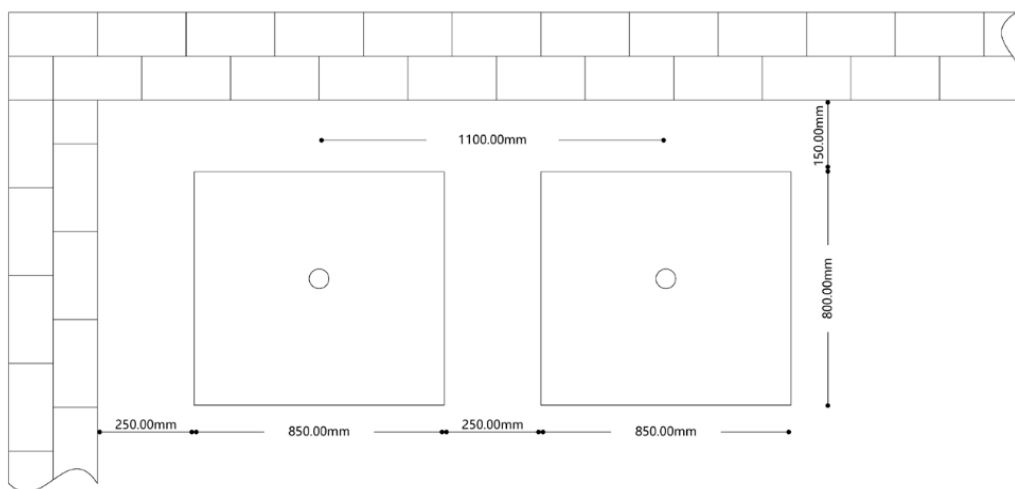

Figure 3 Schematic Diagram of Dimensions
- **Workbench:** If you choose not to use our workbench, you can have one built, which should be 700mm in height and with a corresponding sink. The workbench should be able to bear the weight of the robot with a bearing capacity of not less than 170 kg. Its dimensions are as shown in Figure 3: